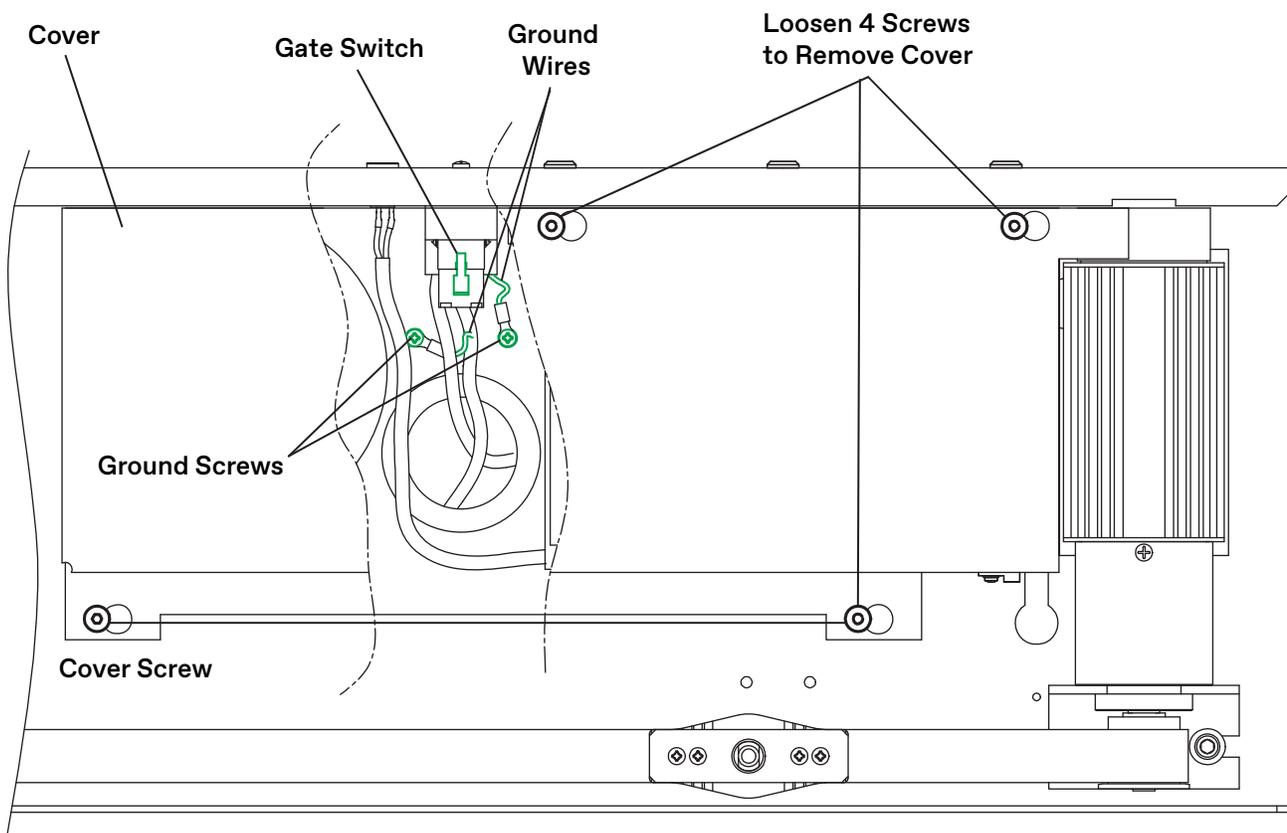

Figure 26 - Remove Cover and Attach Ground Wires
2. Remove the cover from the Door Operator Control Board. See Figure 26.